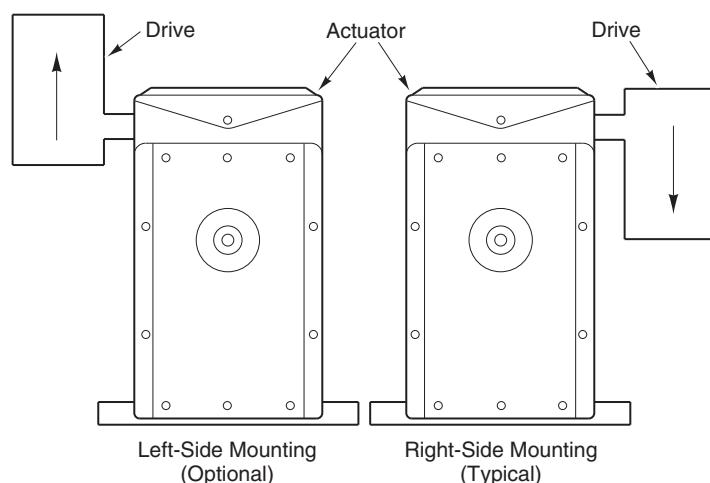
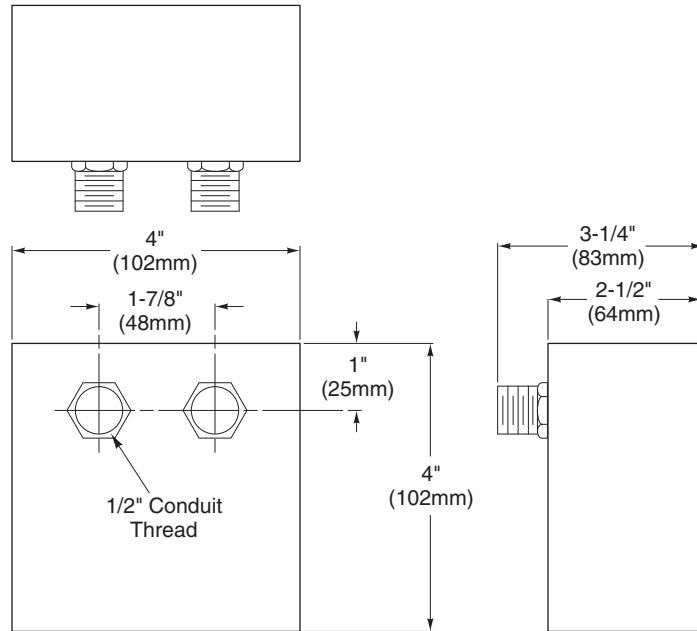

Figure-2 Mounting Position of Drive on Actuator.
Figure-5 Mounting Dimensions of CP-8301-xxx Series Electronic Actuator Drive.
1. Insert the drive's two 1/2" conduit connectors into the two 1/2" knockouts provided on the actuator casing. Refer to Figure-1, Figure-2, and Figure-5.
**Caution:** The power wires must always be inserted directly into the power wiring compartment of the actuator. If the optional mounting position for the drive (refer to Figure-2) is used, it is required that the wires of the drive are routed to exit through its other conduit bushing.